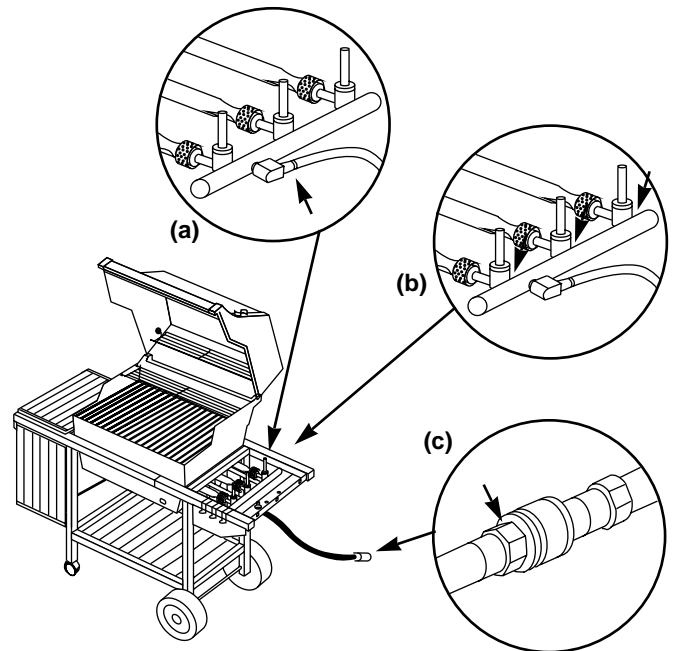

Figure 3
- a) Hose to manifold connection. Figure 3 (a).
- b) Valves to manifold connections. Figure 3 (b).
- c) Hose to quick disconnect connection. Figure 3 (c).